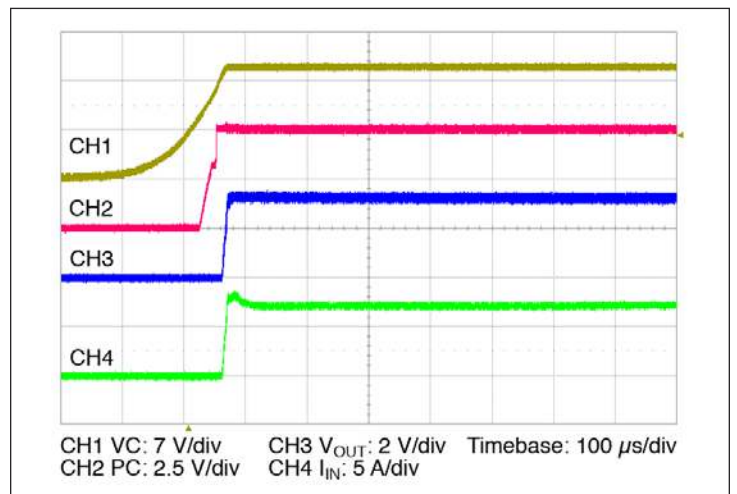

Figure 14 — Start up from application of VC; V_{IN} pre-applied $C_{OUT} = 0 \mu$ F
- Stand Alone Operation (VC applied after V_{IN}): In this case the module output will begin to rise upon the application of the VC voltage (See Figure 14). The Adaptive Soft Start circuit (See Section 10) may vary the output rate of rise in order to limit the inrush current to its maximum level. When starting into high capacitance, or a short, the output current will be limited for a maximum of 900 µsec. After this period, the adaptive soft start circuit will time out and the module may shut down. No restart will be attempted until VC is re-applied, or PC is toggled. The maximum output capacitance is limited to 4000 µF in this mode of operation to ensure a successful start.